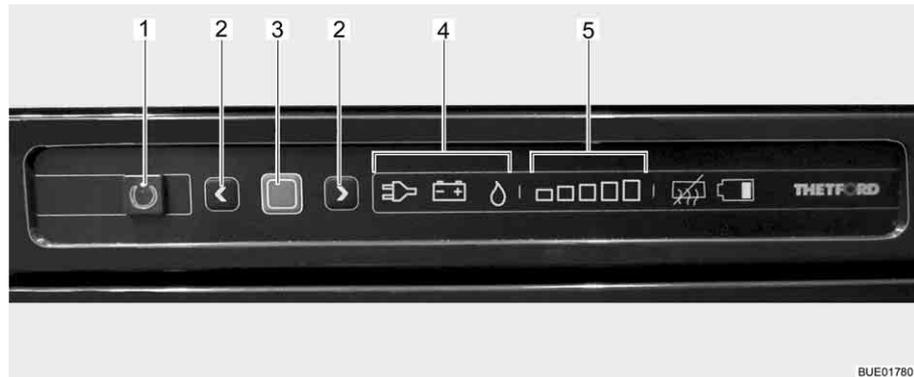

Fig. 133 Operating controls for the refrigerator
The current operating mode is indicated by an illuminated symbol (Fig. 133,4) on the operating unit.
When turned on the refrigerator automatically selects the thermostat position selected last. This position can be adjusted manually by using the arrow keys (Fig. 133,2). The illuminated bars of the cooling level indicator (Fig. 133,5) show the selected thermostat position. The refrigerating temperature for the three types of energy is set with the arrow keys. It takes a few hours till the refrigerator reaches its normal operating temperature. When changing over the operating mode the thermostat setting will be maintained. The refrigerating temperature is retained regardless of the type of energy being used.
- Press and hold the On/Off button (Fig. 133,1) for 1 second. Button (Fig. 133,1) lights up green. To save energy, after approximately 10 seconds the display is dimmed.
- Press confirmation button (Fig. 133,3). The current setting of the operating is displayed.
- If the operating mode gas is not set: To change the setting, press and hold the confirmation button (Fig. 133,3) for approximately 2 seconds.
- Using the arrow keys (Fig. 133,2) select the operating mode gas. Gas supply is open. Ignition will take place automatically. A ticking sound can be heard until ignition has been completed successfully.
- Press and hold the confirmation button (Fig. 133,3) for about 2 seconds.
- Press confirmation button (Fig. 133,3) again. The current cooling level is shown by the illuminated bars (Fig. 133,5).
- To change the setting, press the arrow keys (Fig. 133,2) until the desired setting is displayed.
- Press and hold the On/Off button (Fig. 133,1) for about 2 seconds. All lights go out. Refrigerator is switched off.
- If 230 V operating mode is not set: To change the setting, press and hold the confirmation button (Fig. 133,3) for approximately 2 seconds.
- Using the arrow keys (Fig. 133,2) select the 230 V operating mode.
- If the 12 V operating mode is not set: To change the setting, press and hold the confirmation button (Fig. 133,3) for approximately 2 seconds.
- Using the arrow keys (Fig. 133,2) select the 12 V operating mode.